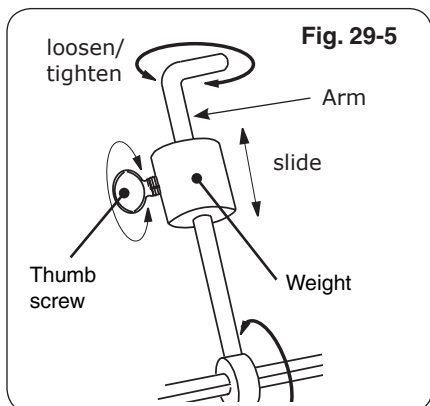

Fig. 29-5
7. Slide the counterbalance weight up or down the arm until the rod rotates most evenly then tighten thumb screw (Fig. 29-5 and Fig. 29-6).